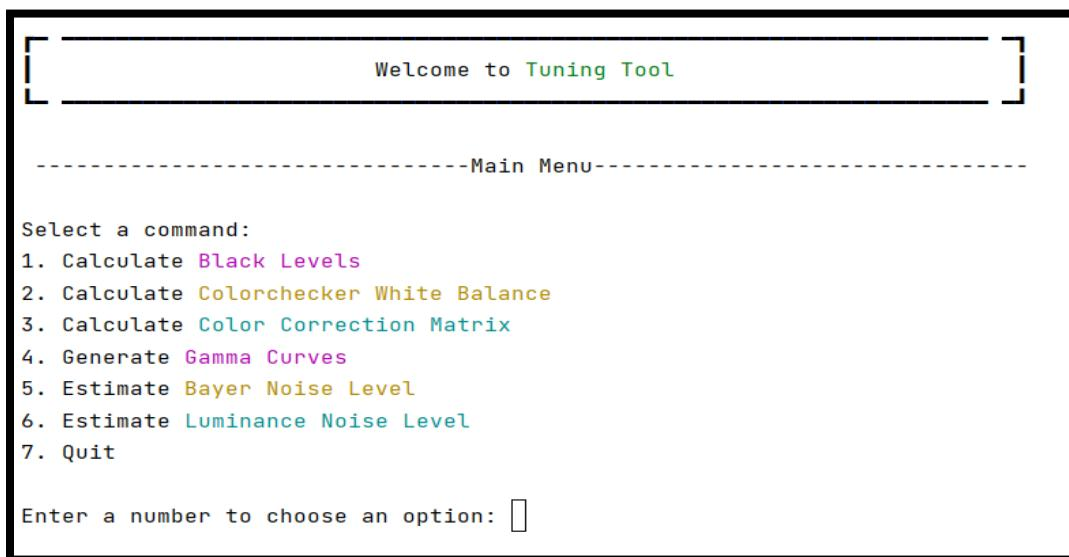

Figure 4: Main menu if the configs.yml file is found
- By default, the config folder in the tool's directory is considered the default path for the config file. Ensure that the necessary config file is present in this location. If the file is found, the following menu in Figure 4 will appear on starting the tuning tool.